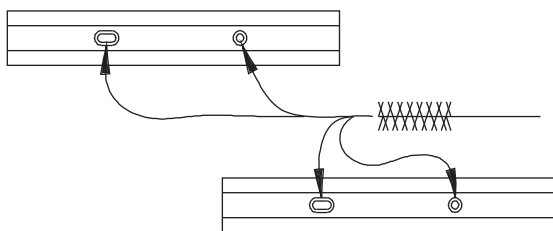

Figure 8-9 Scraper Blade pin holes
- e. the beater shaft and the scraper blade pin holes, as shown in figure 8-9.